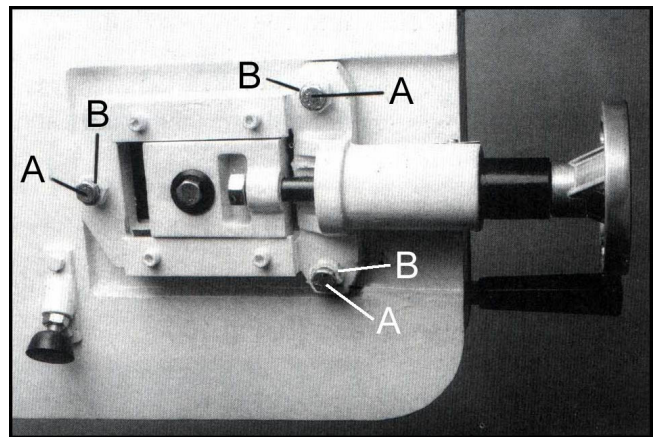

Fig. 8
4. Loosen the three bolts (A, fig.8) located on the top of the tracking nuts.
5. Tracking adjustment is accomplished by either loosening or tightening three adjusting nuts (B, Fig.8).
7. Tighten locking bolts (A, Fig.8) once proper tracking is completed.